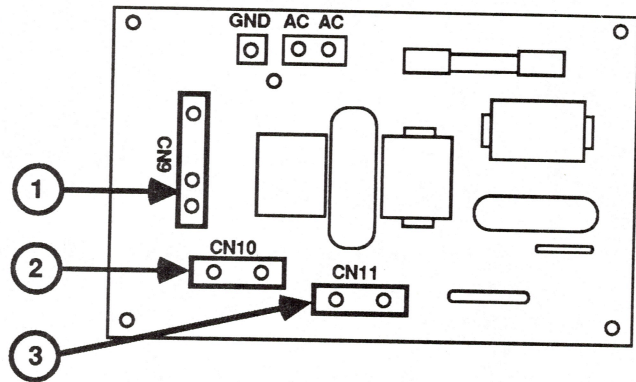

FIGURE 15
- a) CN9 (green, white, and black) -- Figure 15, #1
- b) CN10 (white) -- Figure 15, #2
- c) CN11 (red) -- Figure 15, #3